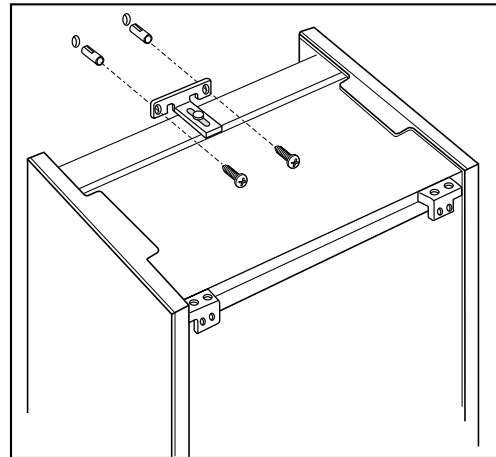

Fig. 15
- Fix it to the wall with the appropriate bracket (Fig. 15).